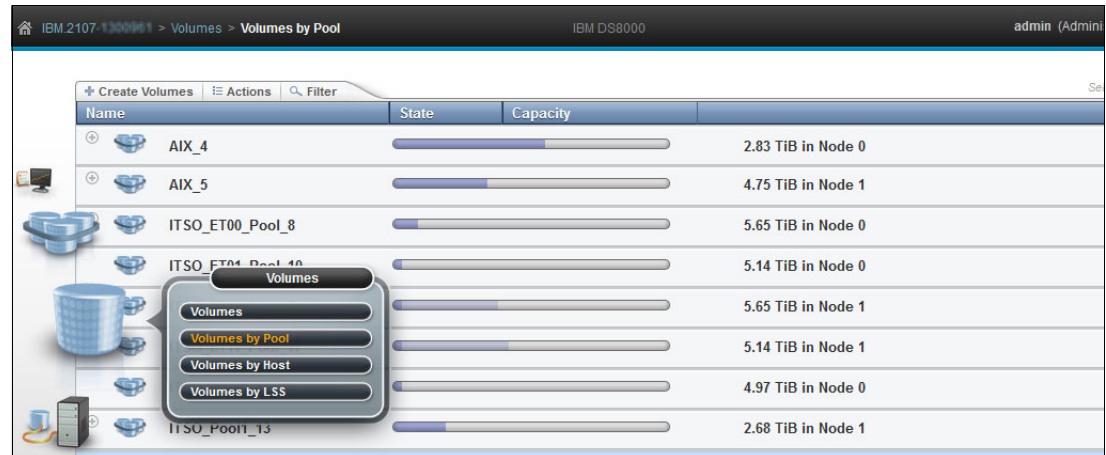

Figure 11-77 Select pools to add CKD volumes
1. Select the **Volumes** icon from the system page, then select **Volumes** or **Volumes by Pool** from the menu as shown in Figure 11-77.